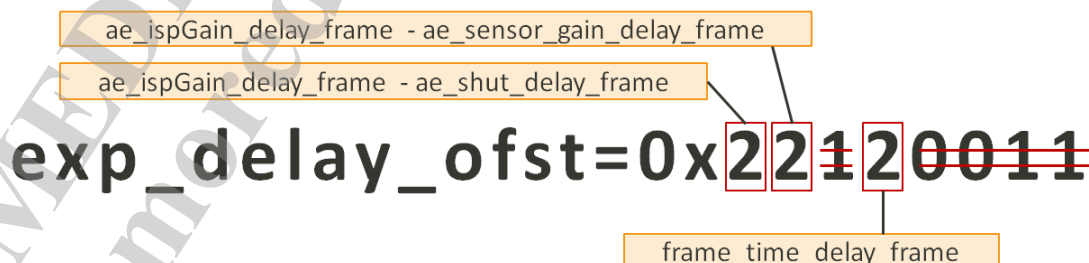

Figure 5.1 – mapping of CCU log to delay values
- **exp\_delay\_ofst**: The first, second, and fourth digits shows exposure settings delay timing (described in 4.2.2 Shutter and frame-length activation delay) that CCU get. The three delay value can be mapped in order of shutter delay, sensor-gain delay, frame-length delay, see figure 5.1 for demonstration.